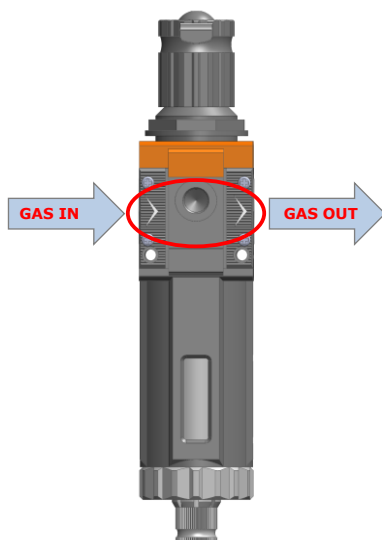

Figure 6. Input and Output gas ports. See symbol on the rear of Pressure Gauge
1. Install the **pressure Gauge for the CO2 line** between the CO2 tank and the CO2-UNIT-BL. Follow the arrow on the rear of the Pressure Gauge for the correct Gas In-Out (See Figure 6).